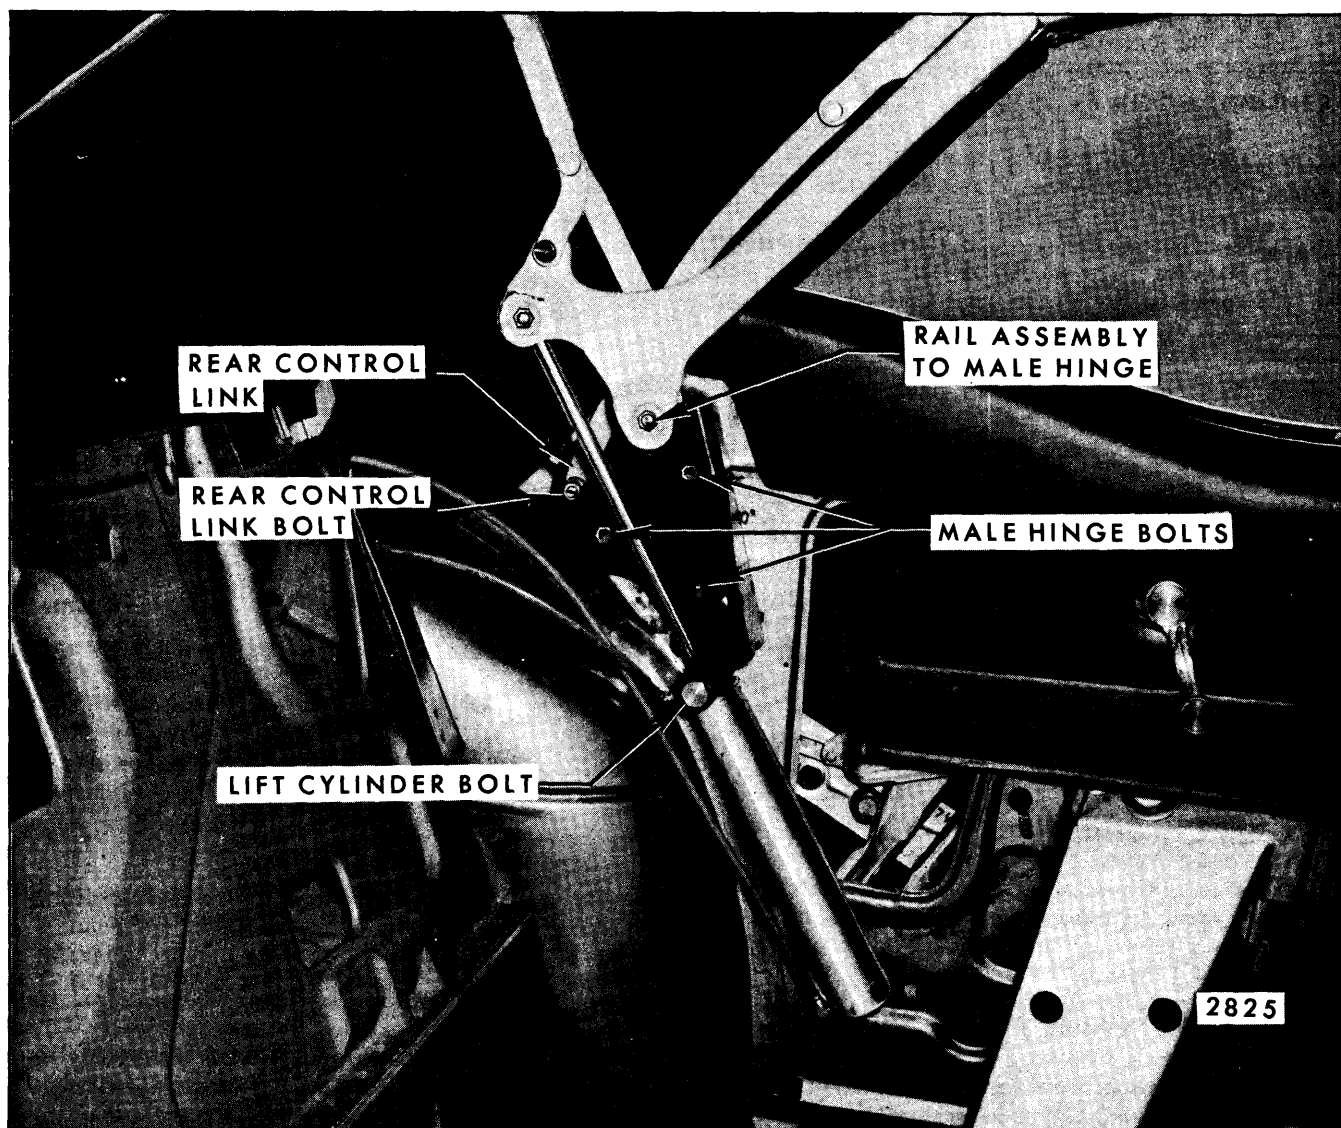

Fig. 13-68—Folding Top Linkage Attachment - "A" Styles Shown, "B & C" Typical
6. Remove attaching nut, bolt, bushing and washer from upper end of cylinder rod, Figures 13-68 and 13-69.